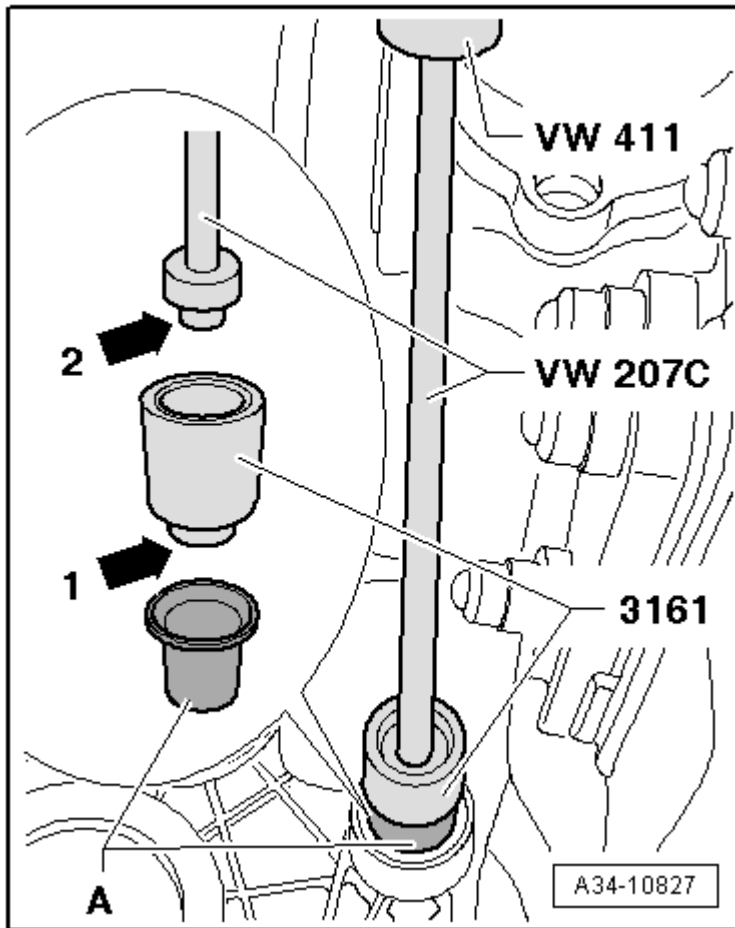

Fig. 70: Installing Bearing Bushing -A- For 3Rd And 4Th Gear Gearshift Rail / Shift Fork All Way Into Transmission Cover
- Installing, refer to **Fig. 70**